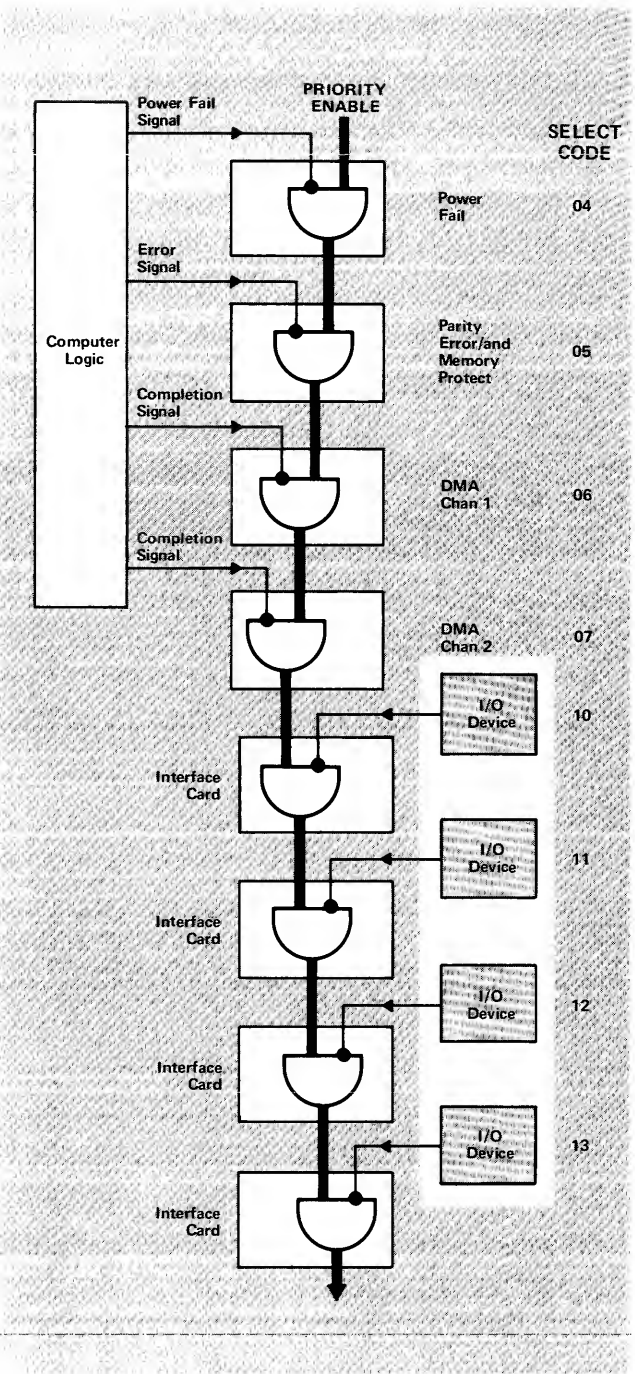

Figure 10. Priority Linkage
Both of these requirements are met by a series-linked priority structure, illustrated in simplified form in figure 10. The bold line, representing a priority enabling signal, is routed in series through each card which is capable of causing an interrupt. The card may not interrupt unless this enabling signal is present at its input.
The subroutine may then issue further STC 12,C commands to transfer additional characters. One of the final instructions in the service subroutine must be a clear control (CLC 12 in this case). This step (6) allows lower priority devices to interrupt (equivalent to re-enabling a gate in figure 10) and restores the channel to its static "ready" condition — control cleared and flag set. This condition is initially established by the computer at turn-on, and it is the